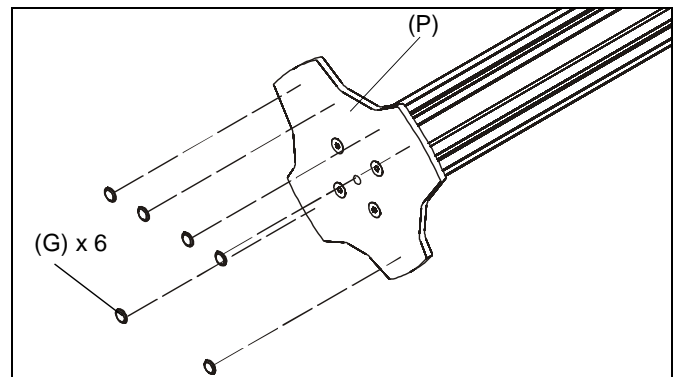

Figure 8
2. Apply bumpers (G) to underside of grommet plate (P). (See Figure 8)